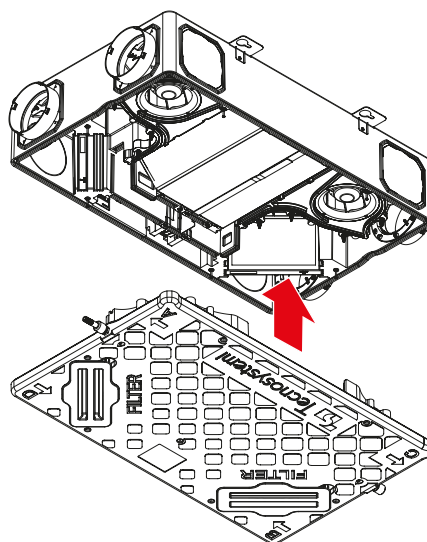

Fig. 5
8. Fix the casing on the unit and tighten the fastening screws (fig. 5).
7. Replace the buttons on the device (fig. 5).